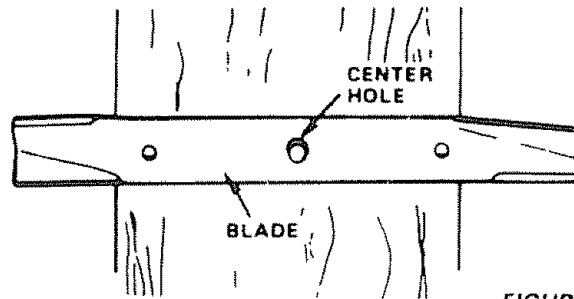

FIGURE 13
- c. To check blade balance, drive a nail into a beam or wall. Leave about one inch of the straight nail exposed. Place center hole of clean blade over the head of the nail (Fig. 13). NOTE: CENTER HOLE OF BLADE ON NAIL, IF BLADE IS PROPERLY BALANCED, BLADE SHOULD REMAIN IN POSITION SHOWN IN FIG. 13. IF EITHER END OF THE BLADE MOVES DOWNWARD, BLADE IS NOT BALANCED. SHARPEN THE HEAVY END UNTIL BLADE IS BALANCED.